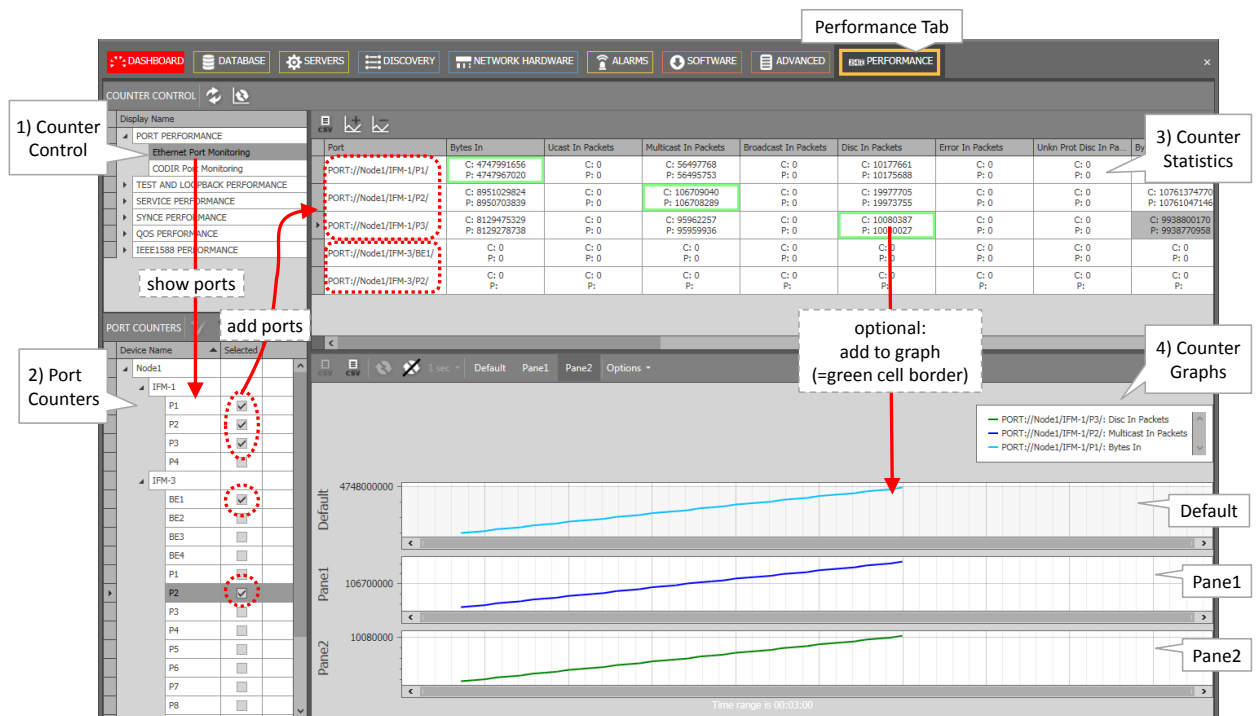

Figure 200 Ethernet Port Monitoring
2. Click Ethernet Port Monitoring, see Figure 200;